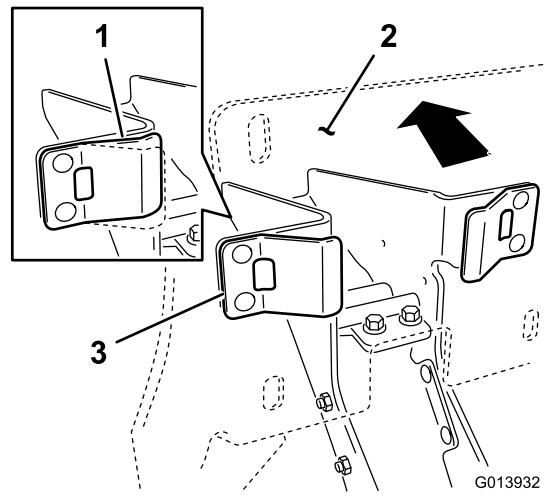

Figure 9
4. Making sure that the plastic stops are in contact with the spring tabs, apply enough pressure against the back plate assembly of the cradle to compress the spring tabs midway (Figure 9).